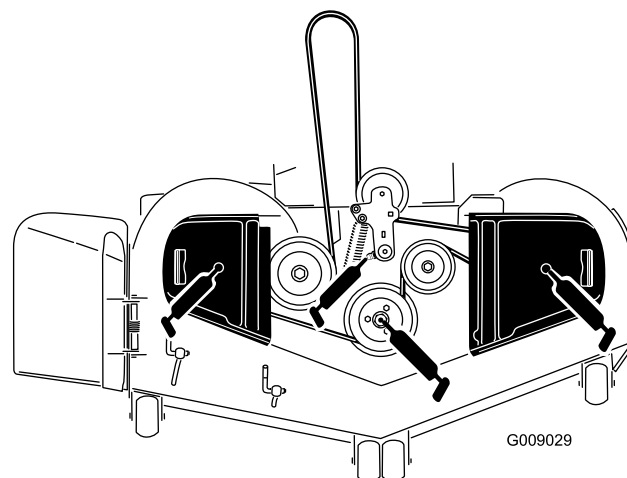

Figure 41
3. Grease the mower deck idler pulley pivot until grease come out the bottom (Figure 41).
4. Grease the three spindle bearings until grease comes out the lower seals (Figure 41).